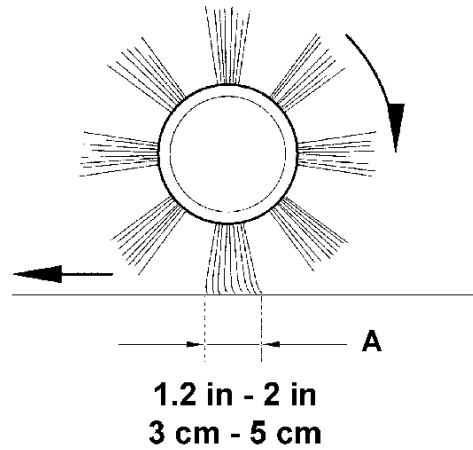
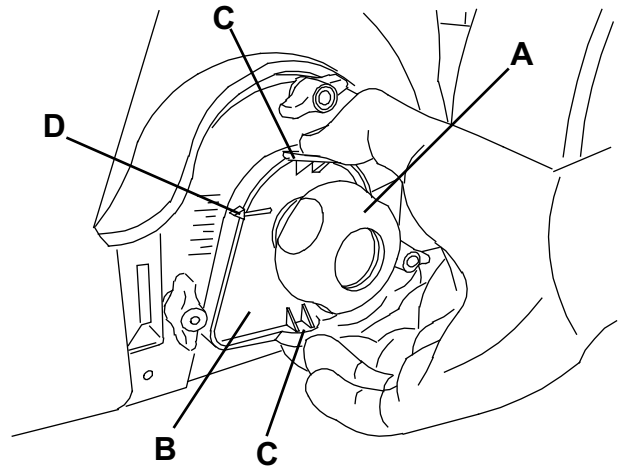

Figure 3
Figure 4
- Turn off the main broom by pressing the switch (1), then move the machine.
- Check that the main broom print (A, Fig. 3), along its length, is 3-5 cm wide.
2. Turn the main switch (1) to "0".
3. Loosen the knob (A, Fig. 4) on both sides of the machine.
4. Grasp the support (B) on the points (C) and move it upwards, then lift it or lower it to change the main broom height. For height variation, refer to the indicator (D). Then tighten the knob (A) on both sides of the machine.